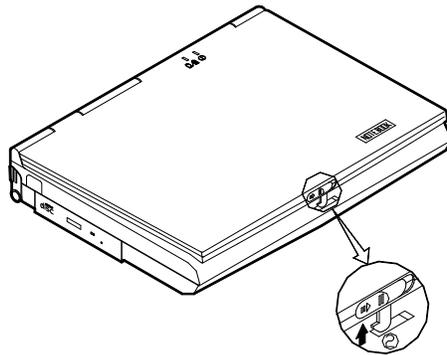

Figure 1-6
2. Lift the top cover to reveal the LCD panel and keyboard (Figure 1-6).